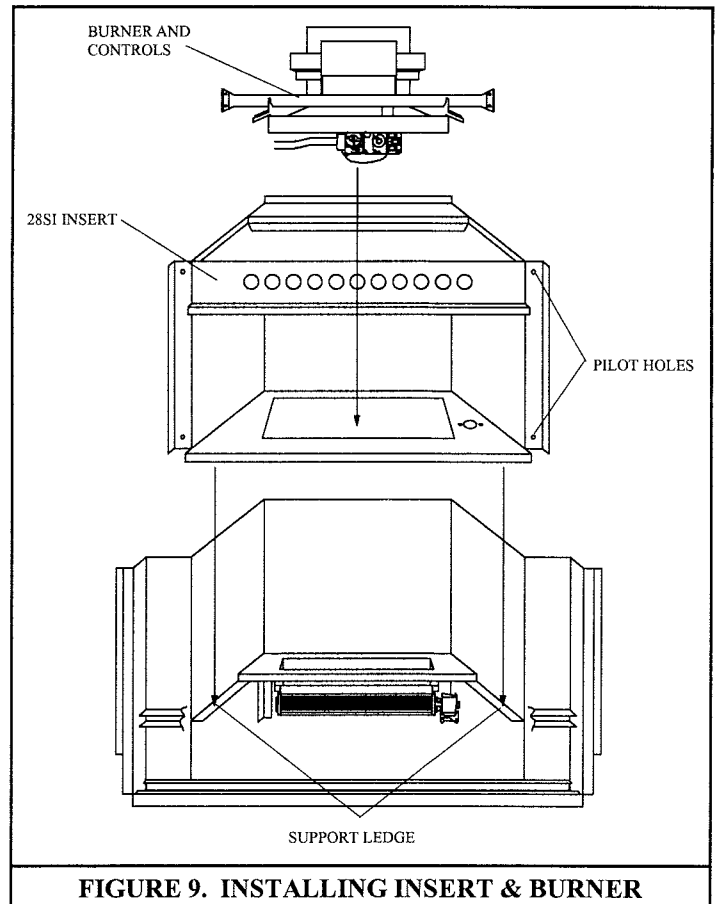

FIGURE 9. INSTALLING INSERT & BURNER
STEP5. Slide the insert into the firebox so that it will sit on the support ledge flush to the back wall of the fireplace. Secure with four screws into the pilot holes provided. (See figure 9).
STEP6. Drop the burner & controls into the square opening in the insert. Secure with 4 screws into the pilot holes provided. (See figure 9).